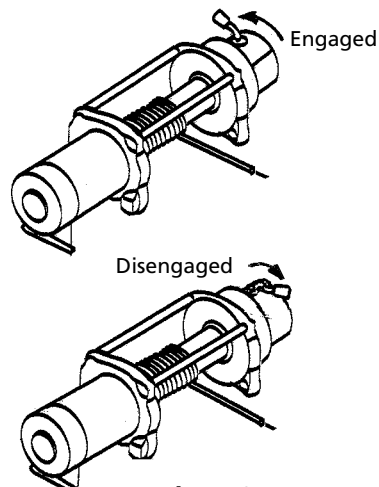

Figure 9
(See Figure 9) Set the freespool clutch knob to the "Disengaged" position. If there is a load on the wire rope the clutch knob may not move easily. DO NOT FORCE THE CLUTCH KNOB. Release tension on the clutch by jogging out some of the wire rope. Pull several feet of wire rope off the drum. Return the clutch knob back to "Engaged" position. Activate the winch in Cable Out momentarily to check drum rotation direction. If the drum rotates in the wrong direction, recheck your wiring. Release the clutch and pull out the wire rope and secure to anchor or load. Check that there are least five (5) turns of wire rope left on the drum. Re-engage the drum by returning the clutch knob to the "Engaged" position.